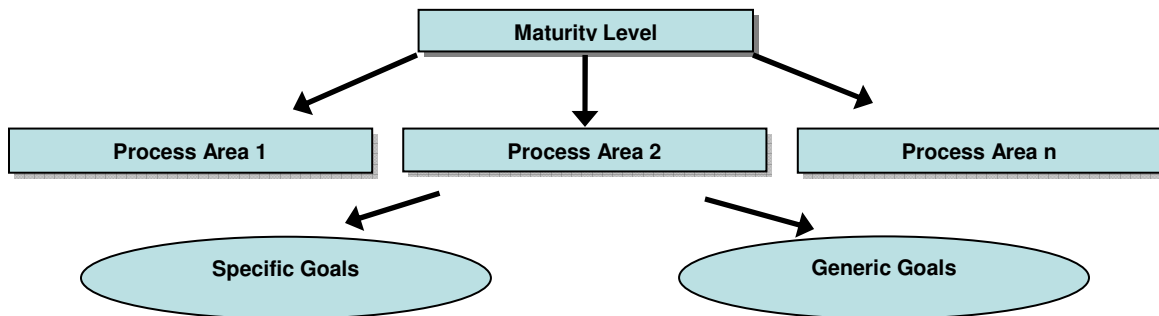

Figure 1: Staged model (based on [CMMI, 2001])
The structure of the staged model is shown in Figure 1. Each maturity level builds on the previous level by pre-defining a set of process areas that must be met in order to reach that level. Each process area includes a set of specific and generic goals. Specific goals are unique to the relevant process area (e.g. “Develop a Project Plan” is a specific goal within the Project Planning (PP) process area). Each specific goal applies activities, so-called “specific practices” that help to achieve these specific goals. Generic goals are common between the set of process areas (e.g., “Institutionalize a managed process” is a generic goal). Each Generic goal consists of a set of “generic practices” that help achieve the generic goal.